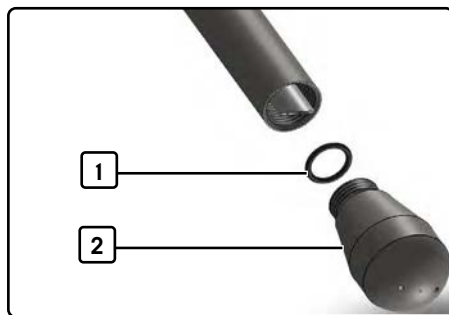

Fig. 8 Steam wand nozzle, removed
2. Unscrew the nozzle [2, Fig. 8] of the steam wand by hand and place it to the side.
4. Screw the nozzle and gasket [1, Fig. 8] back on.